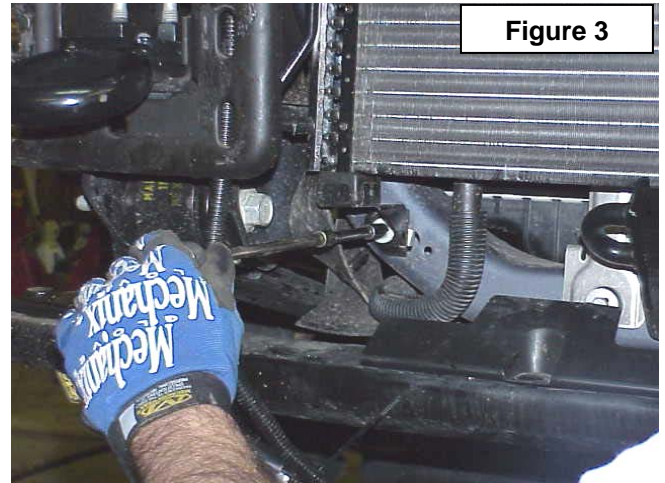

Figure 3
7. The radiator cooler lower mounts will have to be removed to allow the cooler to move outward to gain access to the front spring bolts. Remove bolts on both sides of cooler as shown in **Figure 3** (Passenger Side Shown). Retain the factory hardware for reuse.